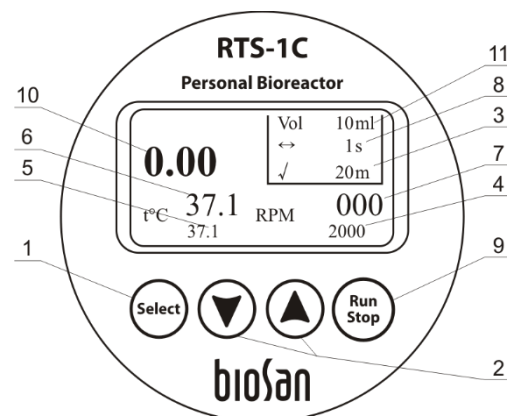
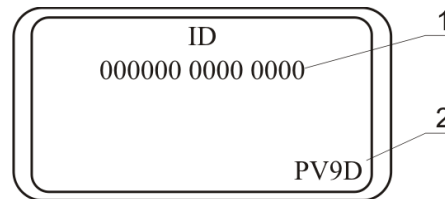

Figure 2. Control panel
Figure 3. ID and hardware version
- 5.1. **Checking hardware version.** To check the hardware version, press ▲ and ▼ keys (fig. 2/2) simultaneously. Display will show a new screen with a unique fourteen-digit unit ID (fig. 3/1) and the hardware version (fig. 3/2). Please refer to the number in the version for further calibration. Display will change back to the previous screen after 4 seconds.
- Set the volume parameter of the distilled water on the display (fig. 2/11);
- Press **Run Stop** key (fig. 2/9) (the device will start the OD measurement cycle by accelerating to 2000 rpm);
- 6.5.1. Press the **Select** key (fig. 2/1) to choose a parameter that you want to change (the active parameter is blinking).
- 6.5.2. Use **▲** and **▼** keys (fig. 2/2) to set the necessary value (if the key is pressed for more than 2 seconds the parameter should change quicker).
- 6.5.3. It is possible to set time between optical density measurements (fig. 2/3), spinning speed (fig. 2/4), temperature (fig. 2/5), time between Reverse Spins (fig. 2/8), operating volume (fig. 2/11). Actual values of the temperature and speed are displayed on the display (fig. 2/6 and fig. 2/7).
- 6.5.4. Press the **Run Stop** key (fig. 2/9) to start and stop operation.
- 6.5.5. Press the **Run Stop** key (fig. 2/9) to stop the operation.
**Caution!** Operation stop will not stop the heating process. To stop heating process set temperature has to be decreased manually until "off" indication appears (fig. 2/5).